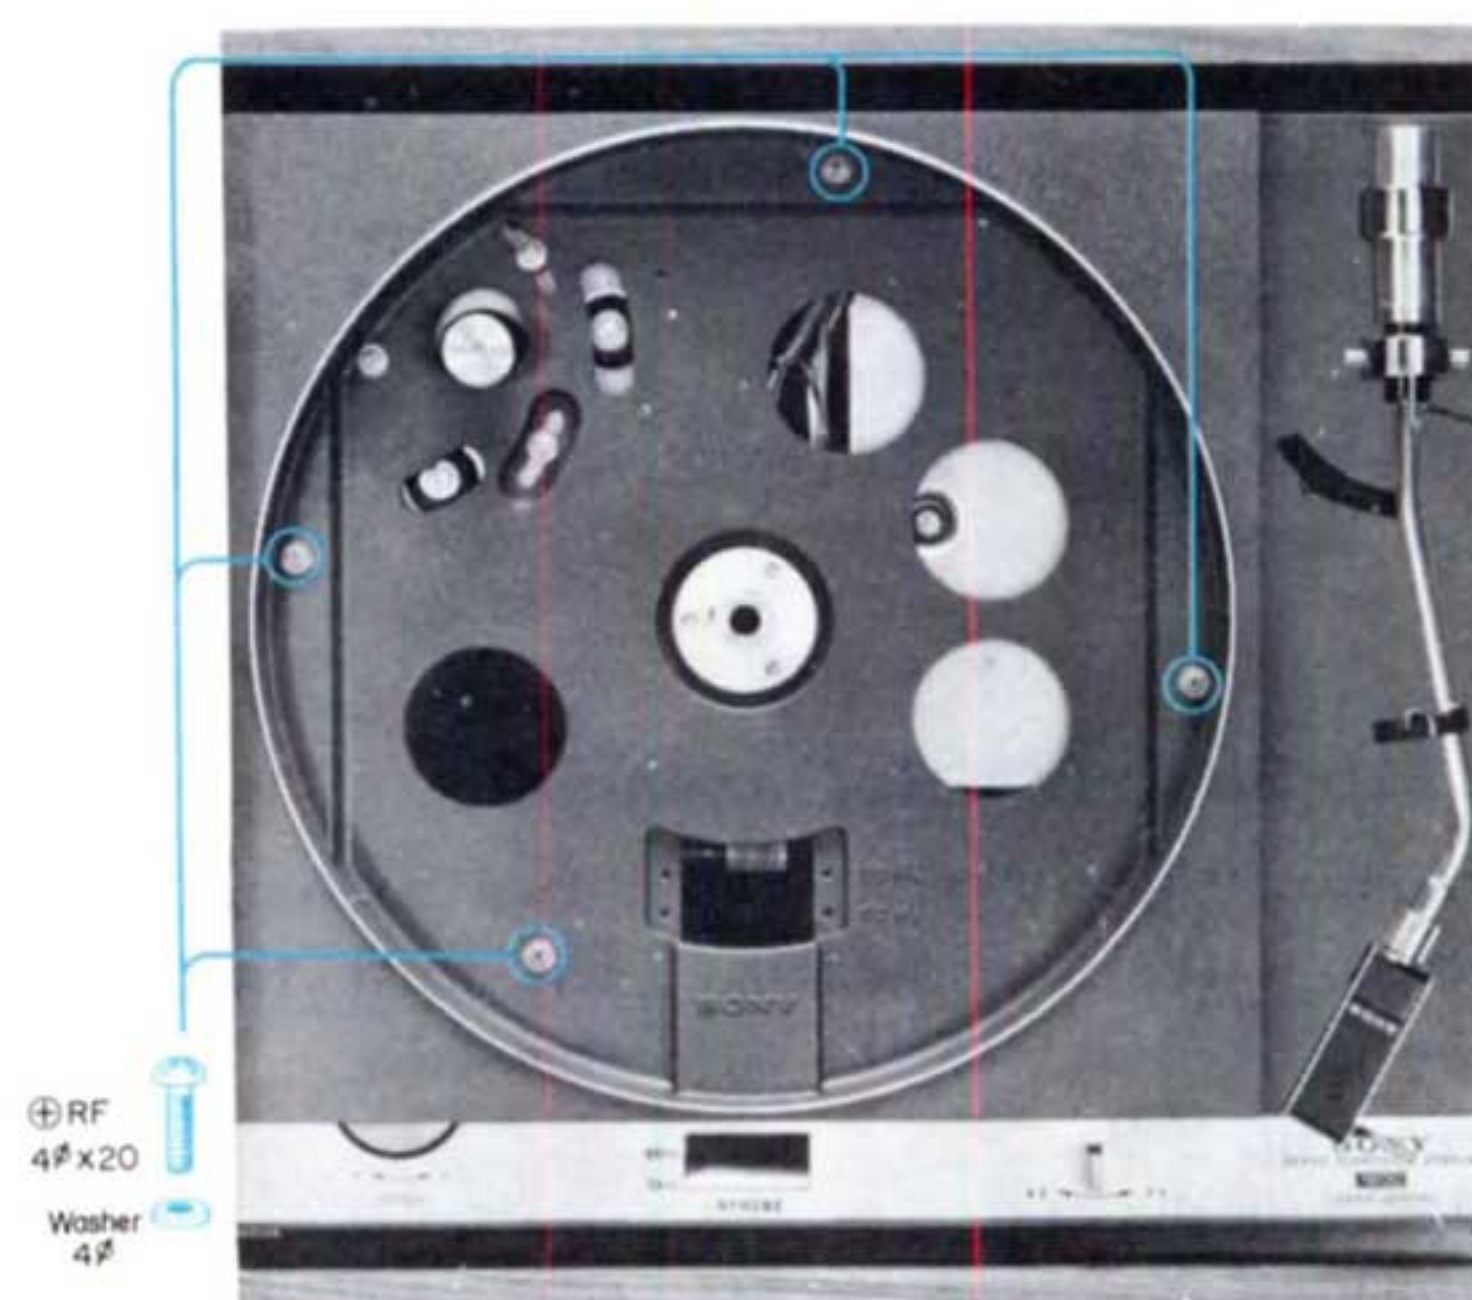

Fig. 2-6 Transit Screw for Turntable Base
3. Remove the four transit screws (+RF 4 ϕ $\times$ 20) from the turntable base as shown in Fig. 2-6 if they have not yet been removed.